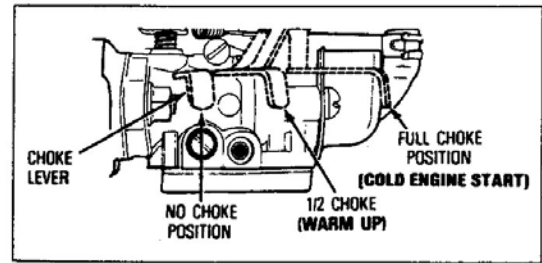

Figure 2
1. Move CHOKE LEVER to FULL CHOKE POSITION (see Figure 2).